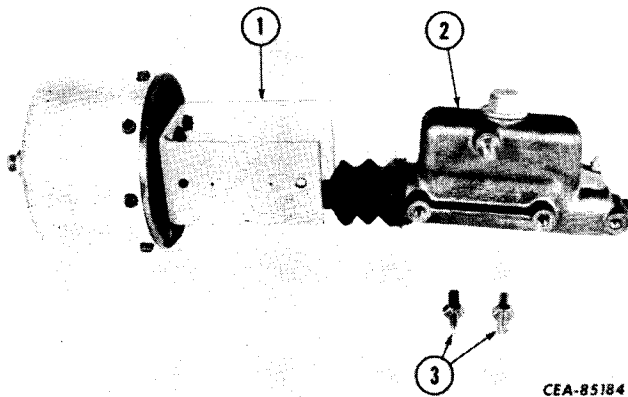

Figure 13-74
Place the hydraulic cylinder (2, Fig. 13-74) in the bracket (1). Be certain that the plunger on the air cylinder fits in the metal grommet in the boot on the hydraulic cylinder. Install and tighten the mounting studs (3).